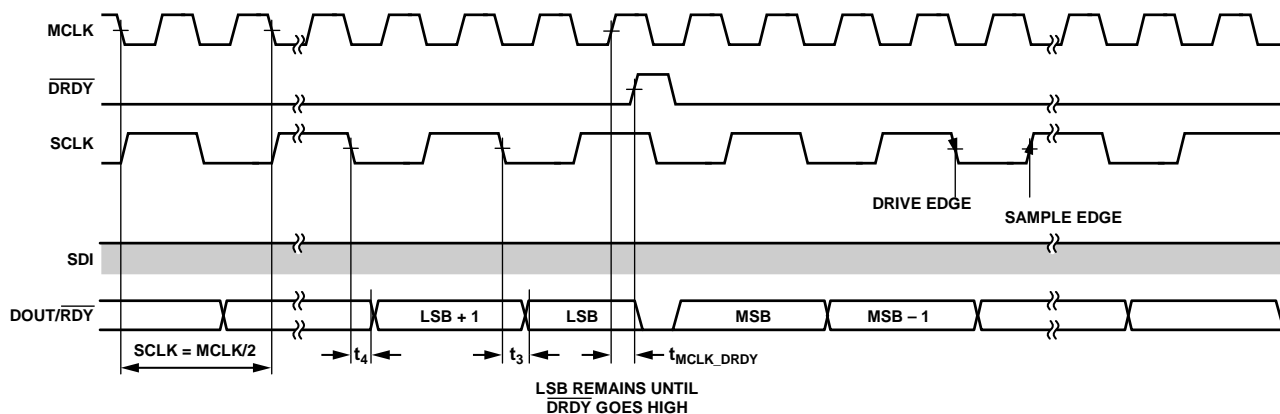

Figure 95. Recommended Interface for Reading Conversions, SPI Control, Continuous Readback Mode
The AD7768-1 interface is flexible to allow the many modes of operation and for data output formats to work across different DSPs and microcontroller units (MCUs). To achieve maximum performance, the recommended interface configuration for reading conversion results is shown in Figure 95. This recommended implementation uses a synchronous SCLK to MCLK relationship.
Figure 95 shows how the recommended interface operates. The data read back spans the entire length of the $\overline{\text{DRDY}}$ period and the LSB remains until $\overline{\text{DRDY}}$ goes high for the next conversion.
2. Generate SCLK based on the $\overline{\text{DRDY}}$ or $\overline{\text{RDY}}$ timing. SCLK is high when the $\overline{\text{DRDY}}$ signal goes high and transitions on the MCLK falling edges (see Figure 95) to ensure that the LSB can be read correctly as the DOUT/ $\overline{\text{RDY}}$ output is reset on the $\overline{\text{DRDY}}$ rising edge. However, SCLK rising occurs before this transition.
Because the full ODR period is for clocking data, the $\overline{\text{RDY}}$ signal no longer flags after each LSB outputs. This signal only flags if the AD7768-1 is in continuous readback mode, or if the AD7768-1 does not count 32 SCLKs within $1 \times t_{\text{MCLK}}$ before $\overline{\text{DRDY}}$, as is shown in Figure 95.